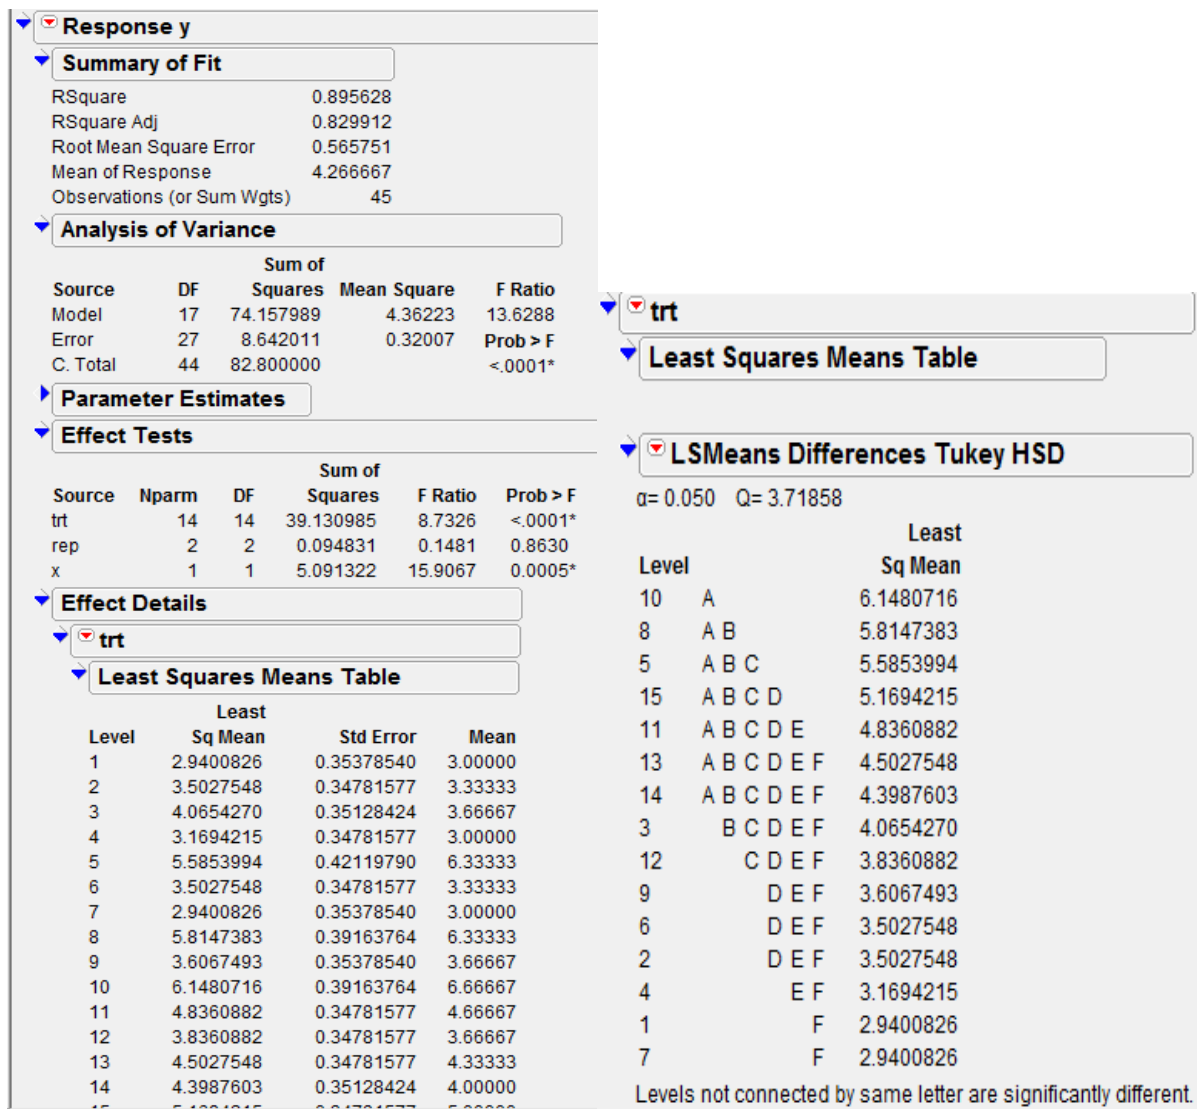

Figure 5.10.1: ANCOVA Analysis and LSMeans Output
4. Put the response variable y → **Y**. Add rep, trt and x variables from **Select Columns List** → **Construct Model Effects** → **Run Model**. (See Figure 5.10.1). One can also see Tukey's Means Comparison by selecting **LSMeans Tukey's HSD**. (See Figure 5.10.1)